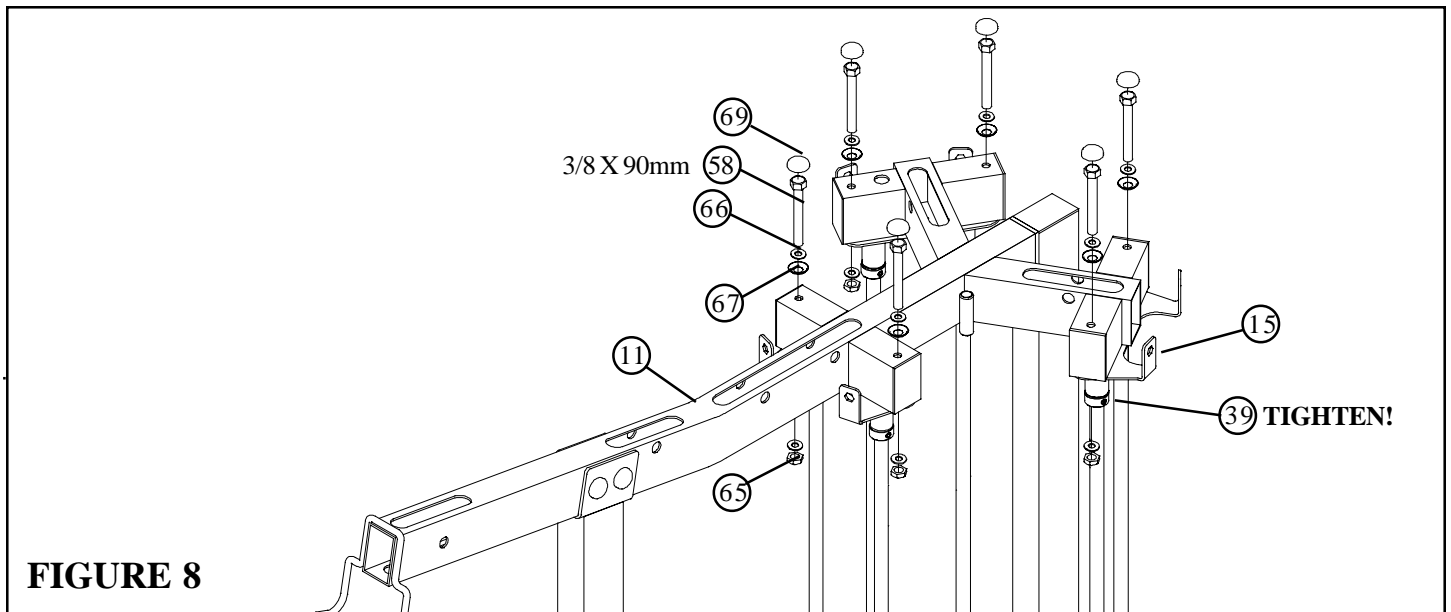

**FIGURE 7**
- **LOOSELY** assemble the LAT/LOW BOOM (11) to the LAT/LOW FRAME (14) and the TOWER UPRIGHT (9) using seven RH CAPS (69), two 3/8 X 73mm BOLTS (57), two 3/8 X 90mm BOLTS (58), seven 3/8" SAE WASHERS (66), seven 3/8" RH WASHERS (67) and three 3/8" LOW HEIGHT LOCK NUTS (65) as shown in FIGURE 7.